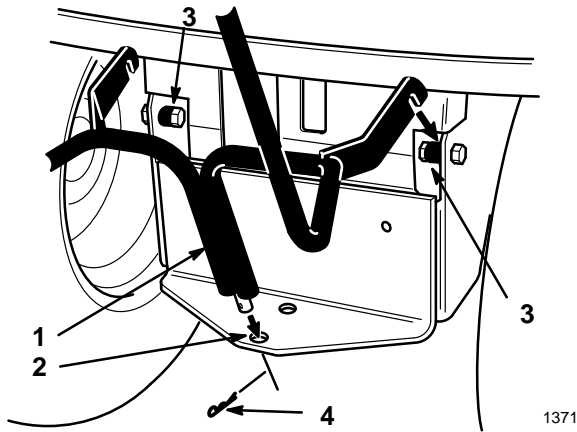

Figure 26
3. Remove the hair pin cotter from the hole at the bottom of the quick-attach bracket (Fig. 26).
- Slide the bottom of the quick-attach bracket up out of the hole in the hitch and unhook from the spacers located inside the tractor frame (Fig. 26).